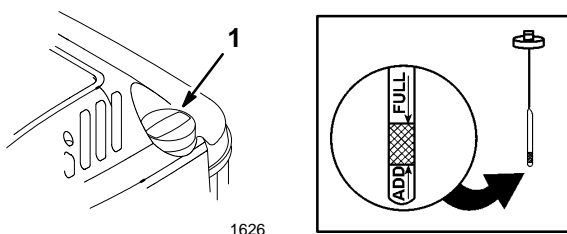

Figure 2
Before each use, ensure that the oil level is between the FULL and ADD marks on the dipstick (Fig. 2). Add oil if the level is low.
1. Position the mower on a level surface and clean around the dipstick (Fig. 2).
5. Remove the dipstick and check the level of the oil on the side of the dipstick with the FULL and ADD marks (Fig. 2).